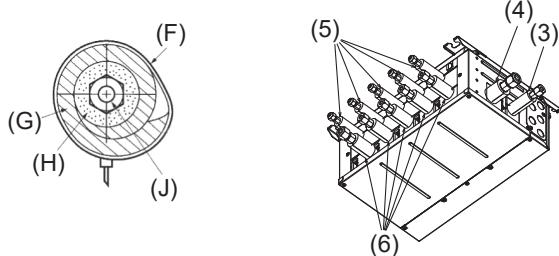
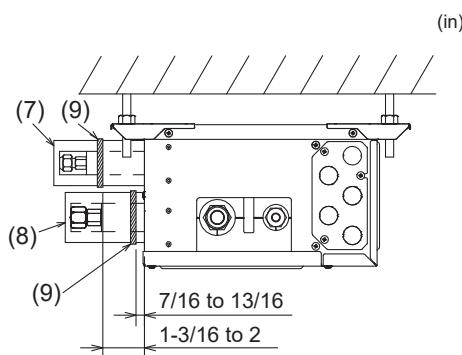

Fig. 7-3
Fig. 7-4
- Insulate the liquid and gas pipes of the Branch box by attaching the heat-resistant polyethylene foam tightly around them. (Fig. 7-3)
- 5) Press the pipe covers (3) and (5) on the liquid piping against the unit and wrap to hold in place. (Fig. 7-3)
- 6) Press the pipe covers (4) and (6) on the gas piping against the unit and wrap to hold in place. (Fig. 7-3)
- 7) Apply the supplied bands (9) at a position 7/16-13/16 in (10 - 20 mm) from each end of the pipe covers ((3)(4)(5)(6)).
- 8) If the indoor unit is not connected, fit the supplied pipe covers (with caps, (7) and (8)) to the Branch box refrigerant piping connections against the unit to prevent condensation dripping from the pipes. (Fig. 7-4)
- 9) Clamp the pipe covers ((7)(8)) in place with the supplied bands (9).
7.2. Handling of ports that are not connected to outdoor unit (Fig. 7-4)